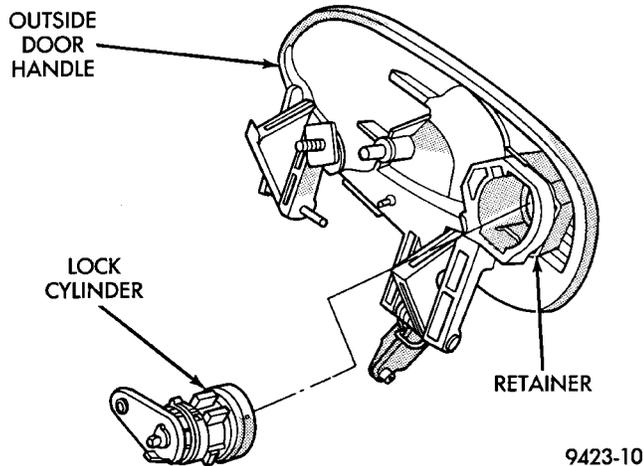

Fig. 29 Door Lock Cylinder
- (1) Remove door trim panel and water shield.
- (2) Close door glass.
- (3) Disconnect door lock rod from latch.
- (4) Remove clip holding lock cylinder to door handle.
- (5) Pull lock cylinder from door handle (Fig. 29).